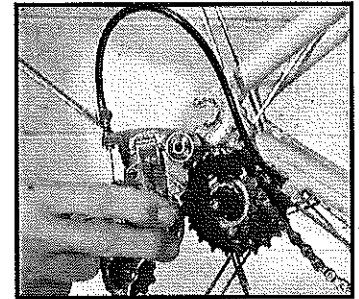

Fig. 18
6. Rotate the derailleur body back (Fig. 18) to increase the space between the derailleur and the dropout.